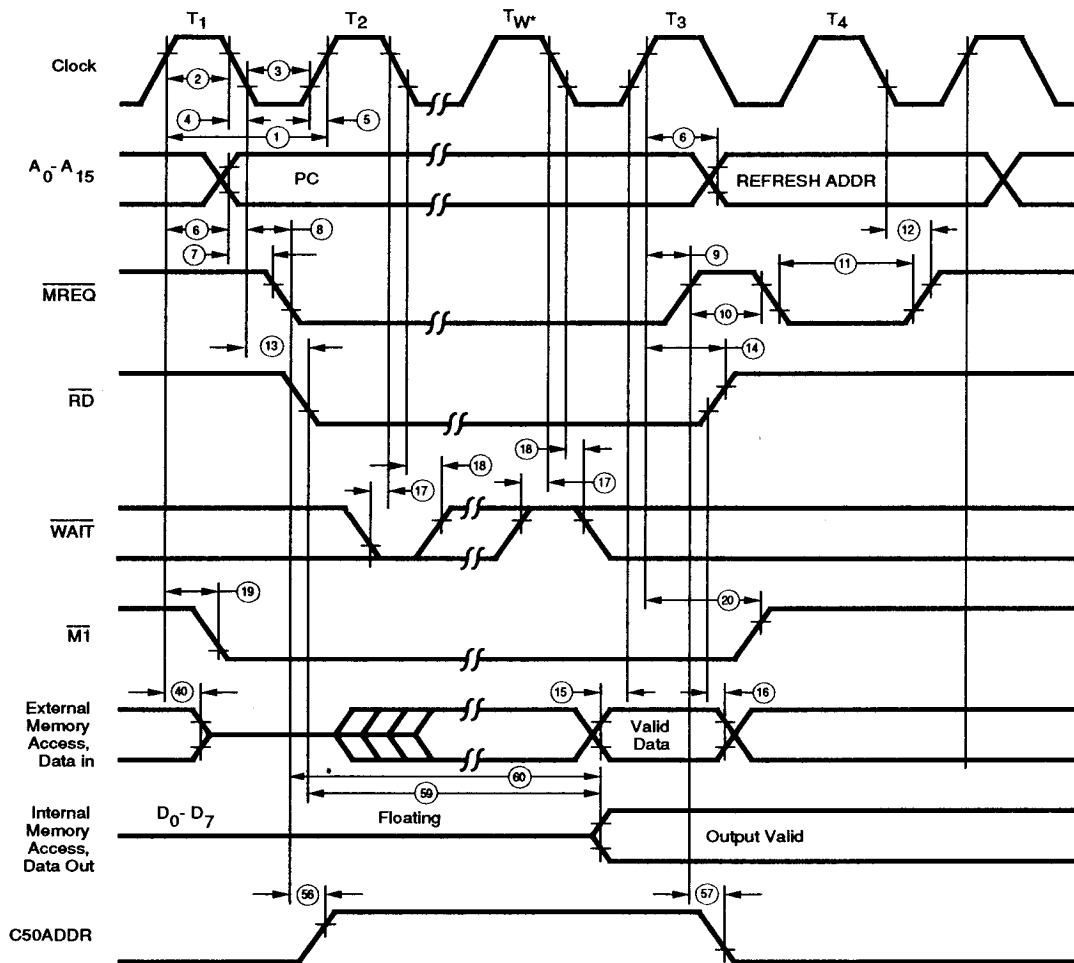

Figure 16. Instruction Op code Fetch
Instruction Opcode Fetch. The CPU places the contents of the Program counter (PC) on the address bus at the start of the cycle (Figure 16). Approximately one-half clock cycle later,  $\overline{MREQ}$  goes active. When active,  $\overline{RD}$  indicates that the memory data can be enabled onto the CPU data bus.